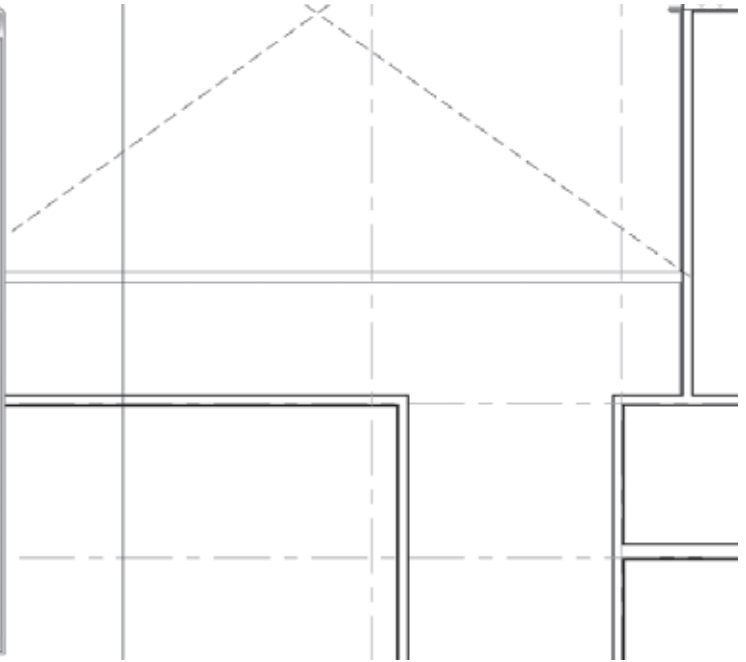

Figure 4.49
4. The model has a large double-height volume for the main living space. A knee wall will be used to bridge the two bedrooms on either side of the volume. Using the Element Properties dialog box (see Figure 4.49), select the wall and change its top constraint from T.O. Roof 3 to Unconnected.